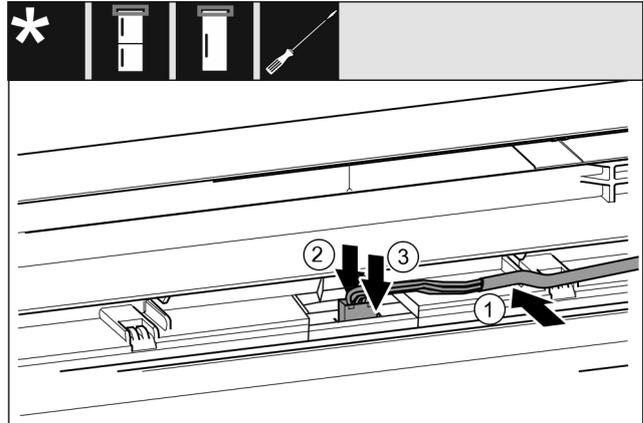

Fig. 63 Fridge/freezer combinations / freezers / refrigerators*
- ▶ Insert the cable Fig. 63 [1] into the guide in the top door.*
- ▶ Push the latching tab Fig. 63 [2] backwards.*
- ▶ Engage the plug Fig. 63 [3].*